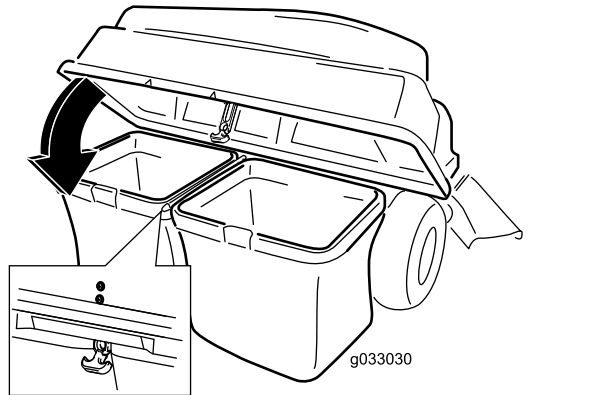

Figure 17
5. Lower the bagger top onto the bags (Figure 17).